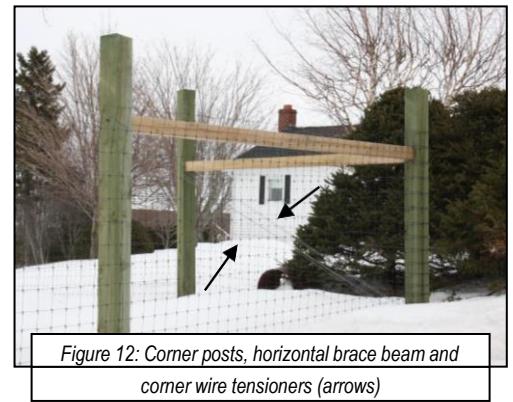

Figure 12: Corner posts, horizontal brace beam and corner wire tensioners (arrows)
- 6) Bracing points (**Figure 12**) should be no further than 660' apart from each other. When a straight run of a fence is greater than 660', then a bracing point should be installed.